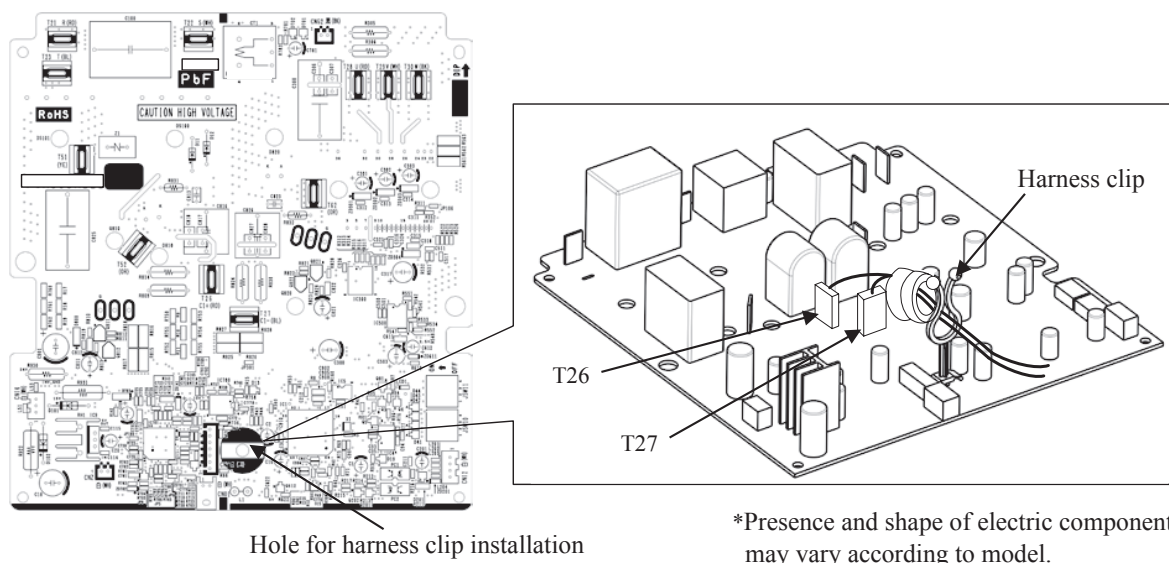

Fig.4 Fix the harness on the harness clip
- 8) Install the harness clip on the inverter PCB as shown in Fig.4, and fix the harness.